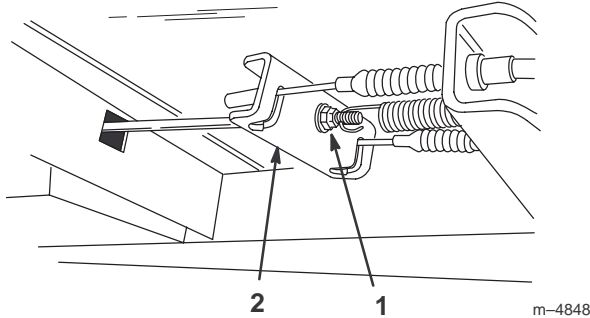

Figure 32
3. Tighten the cable adjusting screw, located beneath the floor panel, until the cables are snug in the brake equalizer (Fig. 32). Do not overtighten the screw. There should be some free play in the brake pedal before the brake engages.